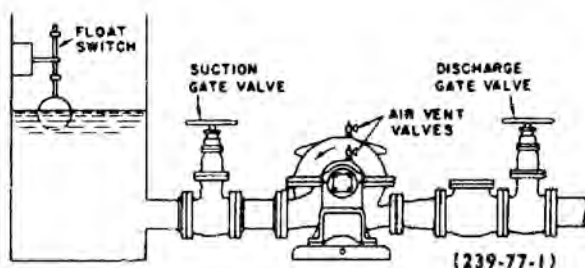

Figure 8:
When pump is installed as shown in Figure 8: on page 21, pump will prime itself. Open gate valve on suction and close discharge gate valve. Open air vent valves until all air is expelled and water flows through openings. Close air vent valves, start pump, open discharge gate valve, and pump will continue to be primed for any future starting.
12. Foot valve not immersed deeply enough (see Figure 8).